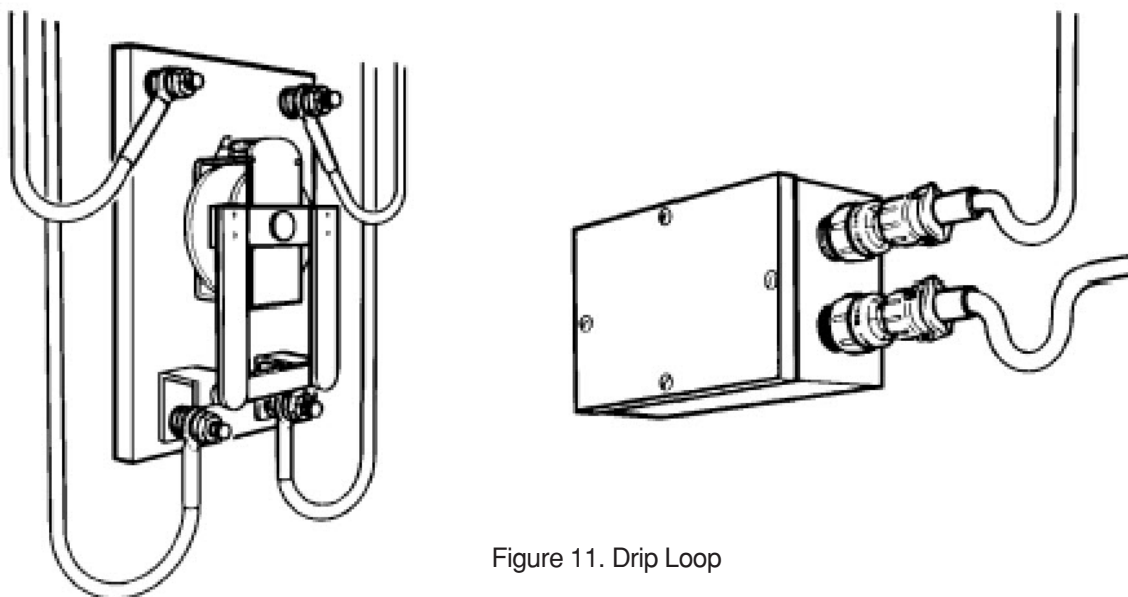

Figure 11. Drip Loop
22. DRIP LOOP. Where wiring is dressed downward to a connector, terminal block, panel, or junction box, a trap, or drip loop, shall be provided in the wiring to prevent fluids or condensation from running into the above devices. Potted connectors are exempt from this requirement (Figure 11).